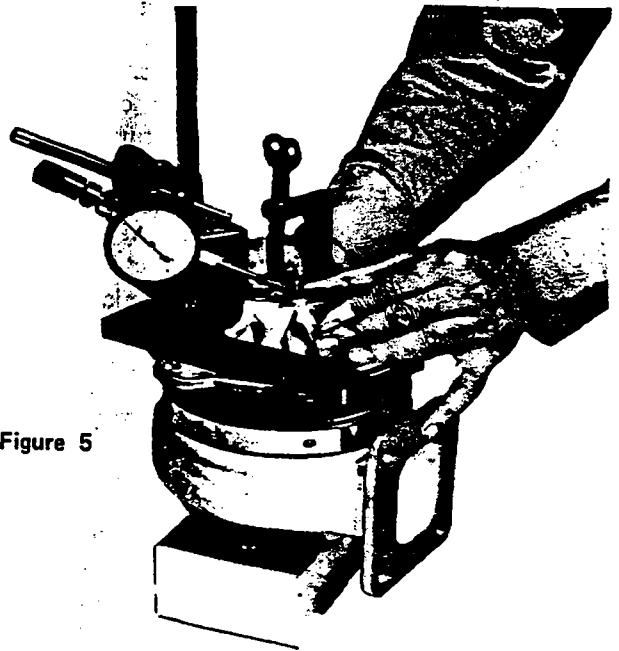

Figure 5
9. Reposition the dial indicator so that the contact point is resting on the flat side surface of the impeller nut as shown in Fig. 5, and then adjust the indicator dial to zero. Push from side to side as shown to determine the radial play of the shaft. Rotate the shaft slightly to get minimum readings on the nut flat. Maximum allowable radial play is .022 inch. If radial play exceeds this limit, parts are worn excessively and the turbocharger must be rebuilt.